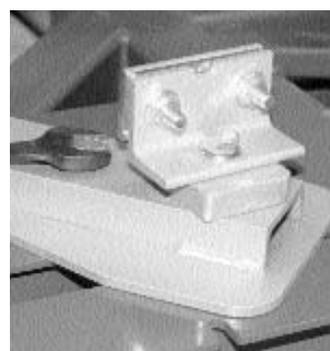
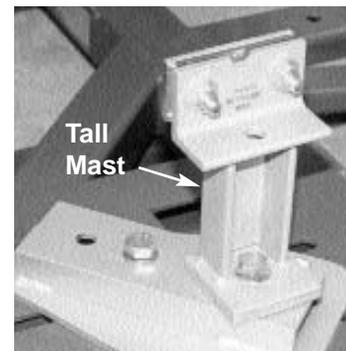

Figure 19
Figure 20
- Use anchoring stands when using a pulling tower. Figure 19 shows anchoring stand being secured to mainframe. The clamp jaws mount to vehicle's pinch-weld or to t-tabs welded to frame rails. A tall mast can be mounted to the anchoring stand for measuring purposes. (See Figure 20.)